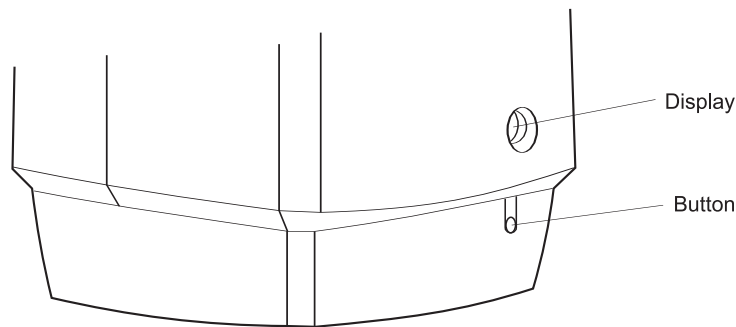

Fig. 20
2. Switch on the electrical supply and the display (see Fig. 20) will show 'A1' and start to countdown from eighty to zero. During this countdown the PCB does a self-diagnosis of all the sensors and pumps. If the collector temperature is between 10 and 130°C the drain back unit pump will run for a short period to run a test program, after which the system is ready for use.
5.4 DISPLAY - Fig.20
When both pumps are operating, a flashing dot will be visible in the right hand corner of the display (Fig. 20). If only the cylinder pump is running, a flashing dot will be visible in the middle of the display.
The display (see Fig. 20) will display the solar cylinder temperature (10 - 70°C) for 4 seconds followed by the operating mode (oN or oF) for 2 seconds, after which the sequence will be continually repeated.